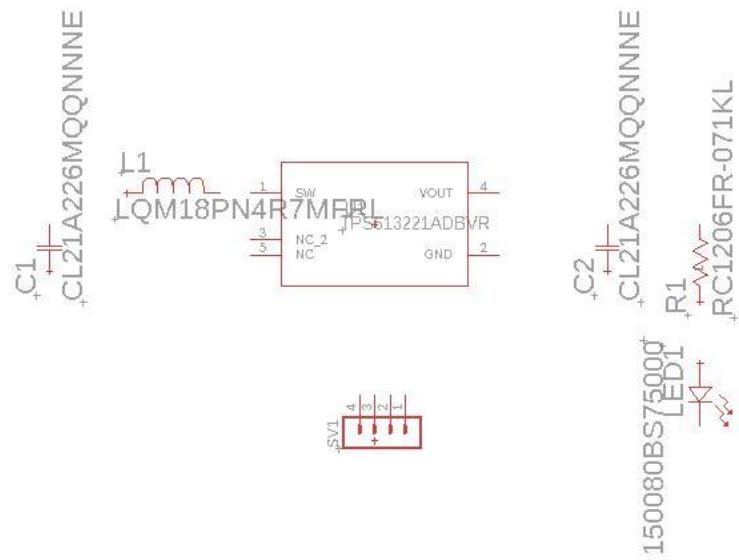

Figure 14: Parts in the schematic moved to the desired location.
3.14: Select the Value tool and modify the value of each part. Select a part so its value can be changed. A new menu will appear and select to change the part's value. The goal is to remove completely the long part name for each part except for the regulator. Replace each part's value with its actual value (for example 22 uF). The regulator value will be replaced with its part number of TPS61322 1 / 2 for the 3.3V and 5.0V regulators. Next, change to the rotate tool and rotate the part's value and name to the desired orientation. Use the move tool to move the value and name of each part to the desired location in the schematic by selecting value and crosshair (Figure 14).